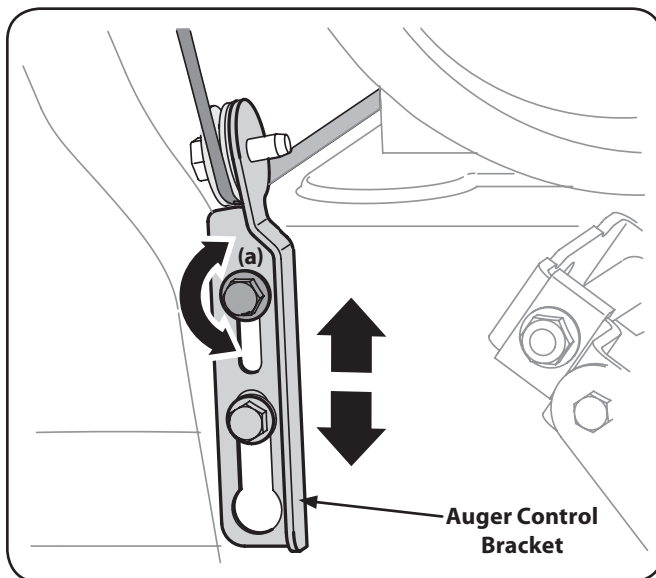

Figure 3-13
4. Allow the auger to remain engaged for approximately ten (10) seconds before releasing the auger control. Repeat this several times.
7. To readjust the auger control cable, loosen the upper hex screw (a) on the auger cable bracket. See Figure 3-13.